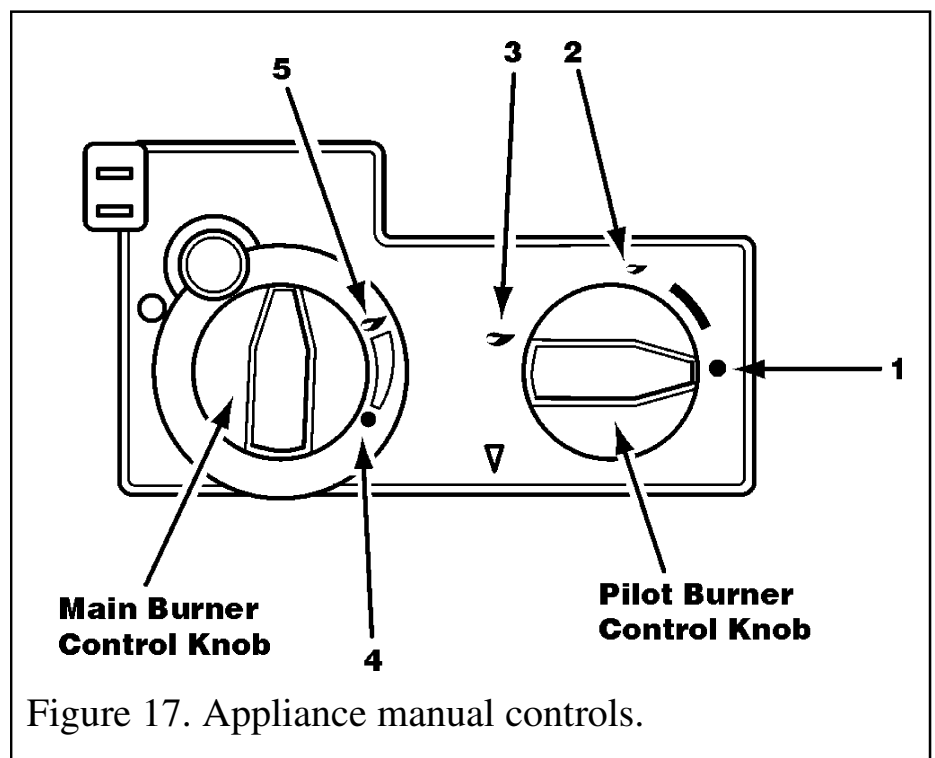

Figure 17. Appliance manual controls.
1. Ensure that the pilot burner control knob is in the OFF position (1 in figure 17).
2. Depress the pilot burner control knob and turn anti-clockwise to the ignition position (2 in figure 17) to activate the piezo ignition system. A 'click' will be heard and the pilot should light. If the pilot does not light immediately, repeat the above procedure, keeping the knob depressed for several seconds in order to purge any air from the system.
**1.** Once the pilot light is established, light the main burner by turning the pilot burner control knob anti-clockwise to the "main burner on" position (3 in figure 17), and by then turning the main burner control knob to the high position (5 in figure 17).
**2.** Check the full range of heat settings by turning the main burner control knob slowly between the high position and the low position (4 in figure 17).
Turn the main burner control knob fully clockwise. Alternatively turn the pilot burner control knob clockwise to the ignition position (2). Refer to figure 17.
Rotate the pilot/burner control knob clockwise to position 1, as shown in figure 17.
**3.** In order to disable the handset, but still leave the pilot alight, turn the pilot burner control knob to the ignition position (2 in figure 17).
**4.** Turn the fire off by rotating the pilot burner control knob to the OFF position (1 in figure 17).